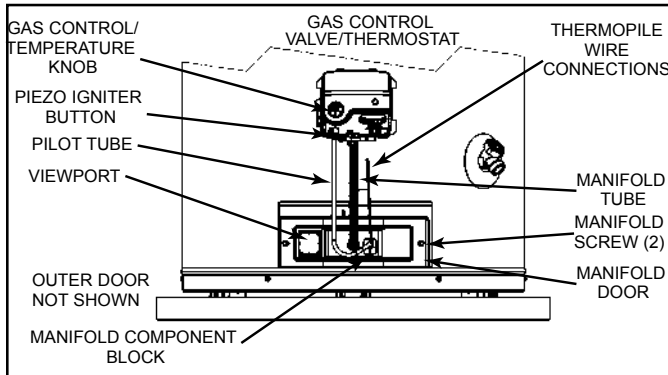

Figure 33
- Remove the screws (1/4" nut driver) securing the manifold/burner assembly to the combustion chamber (Figure 33).